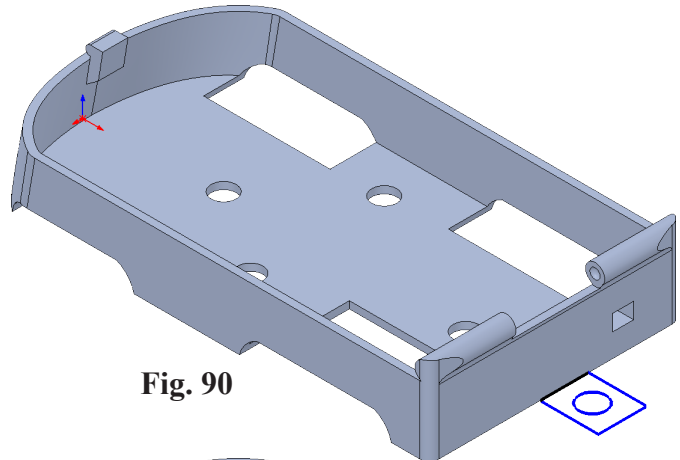

Fig. 90
Step 5. Click **Circle** (S) on the Sketch toolbar.
Step 6. Sketch circle inside rectangle, **Fig. 90**.